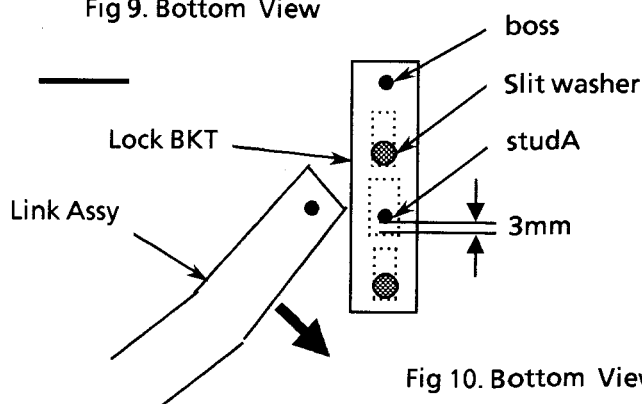

Fig 10. Bottom View
1. Move the link assy shown in Fig 10 .
2. Move the lock BKT shown in Fig 10 .